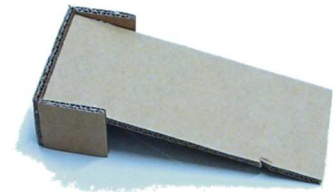

Figure 4. The opposite approach span
3. Assemble the opposite approach span by glueing together pieces **E**, **C**, and both pieces **A** as shown on fig. 4.